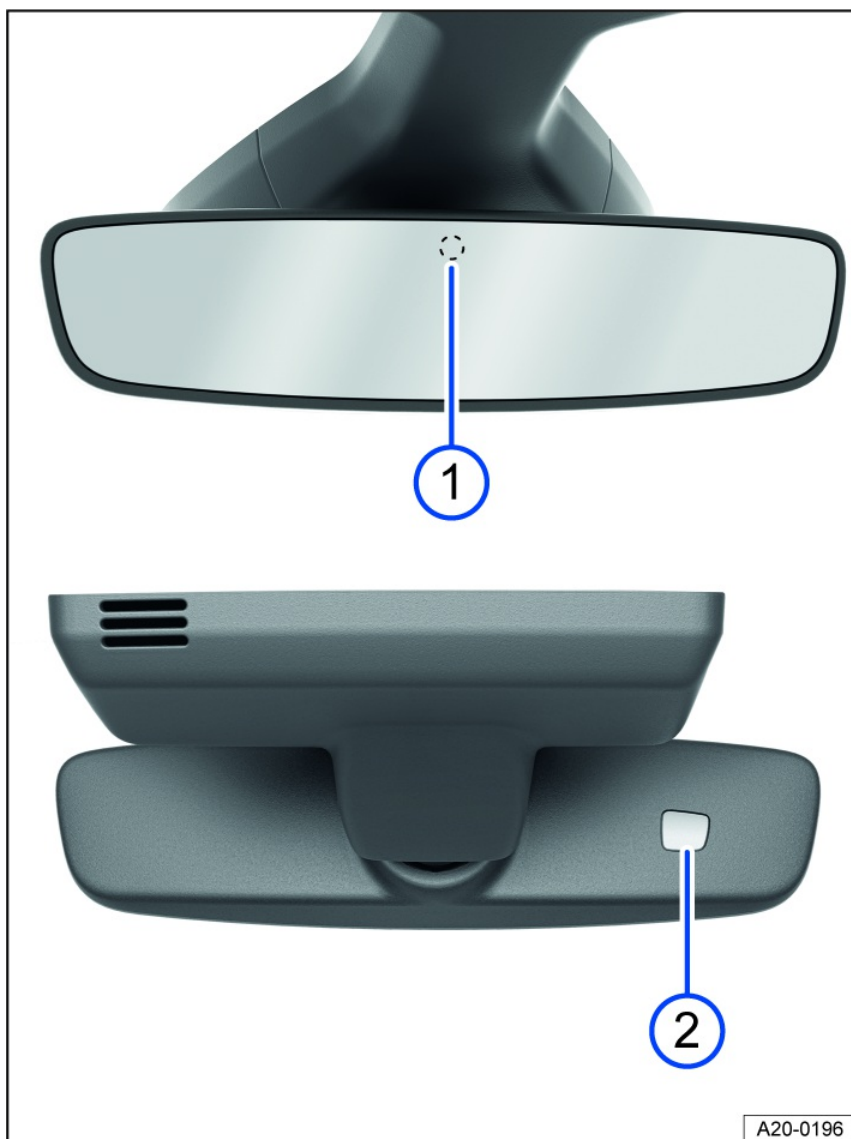

Fig. 106 On the windshield: automatic dimming interior rearview mirror.
When the ignition is on, the sensors measure the amount of light entering from the rear fig. 106 ① and from the front ②.